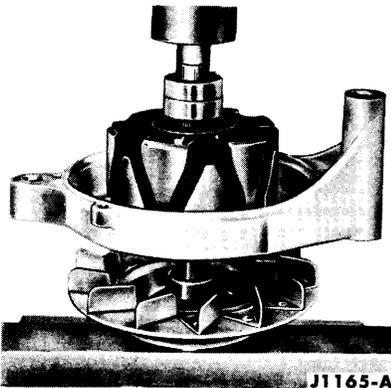

FIG. 48—Pulley Installation
5. Press the pulley onto the shaft until the hub just touches the inner race of the front bearing (Fig. 48).